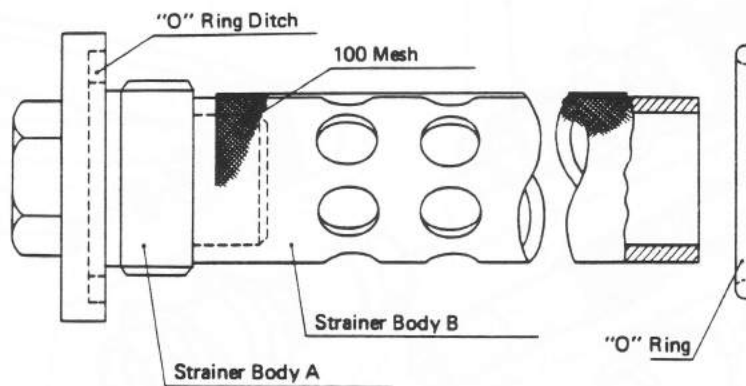

Fig. 10 Strainer
13. Remove the screw (29). Remove the spring washer (28), washer (27) and stricker arm boss (26), and pull out the ram shaft arm (25).
14. Remove the three screws (M8) from the ram shaft support (16). Lightly tap the right end of the ram shaft (9) (take care not to damage the shaft), and drive out the ram shaft with the ram shaft support (16).
15. Remove the three screws (M8) from the ram shaft support (23), and remove the ram shaft support (23) and ram shaft bush (21) together. Remove the ram shaft bush (18) on the right side. The "O" rings (19) and (20) can be removed together
- with the ram shaft bushes (18) and (21). The removed "O" rings should be discarded. The support gaskets (17) and (22) should be discarded.
16. Remove the cotter pin from the lift fork pin (7), and remove the washer (10). Then pull out the lift fork pin (7) from the ram arm (8) remained in the hydraulic case, and pull out the lift fork pin (7). Remove the ram arm from the hydraulic case.
17. The strainer assembly consists of the parts as shown in Fig. 10. Remove the strainer body A and pull out the strainer body B. Discard the "O" ring.